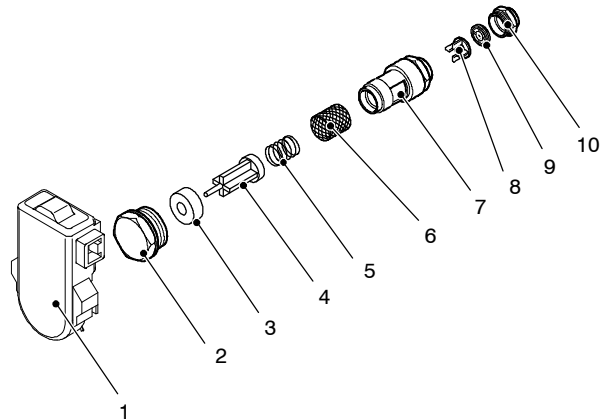

Fig. 59
When the flow rate through the d.h.w. circuit reaches about 2,5 litres/min', the float 4 (Fig. 59) is drawn towards the right.
15.2 Nomenclature and location of parts (Fig. 59)
- 4 Unscrew the plug 2 (Fig. 59) and extract the flow switch group.
- 5 To remove the filter from the flow switch group separate the body 7 from the plug 2 (Fig. 59) by unscrewing it.
Attention: the ring 3 (Fig. 59) has a magnetic polarity and must be correctly coupled with the spindle of the float 4.
- 2 Unscrew the threaded ring 10 (Fig. 59) and remove it from the body 7.